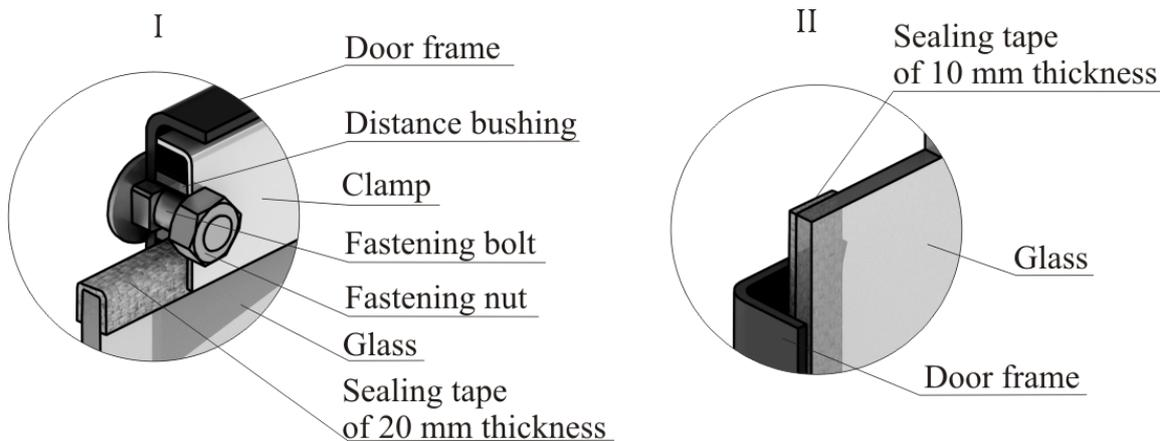

Figure 16. Fastening of translucent screen of the «Vitra» model door
3. Take new glass and if it doesn't have thread sealing tape stick them: tape of 20 mm in width is stuck from the top and from below the glass, in a «II» shape (figure 16.I), tape of 10 mm in width is stuck vertically, along the lateral sides of the glass (figure 16.II).
4. Insert the glass into the stop, at that the tape stuck from the lateral sides (vertical) shall be pressed between the glass and the door frame (figure 16.II).